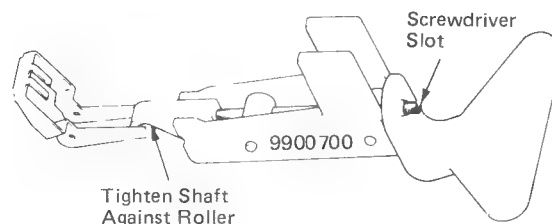

Figure 4
3. With tool installed as shown (Figure 4), ensure shaft is touching roller to lock roller in place. (This may be done with tool assembled, using the screwdriver slot in end of shaft.